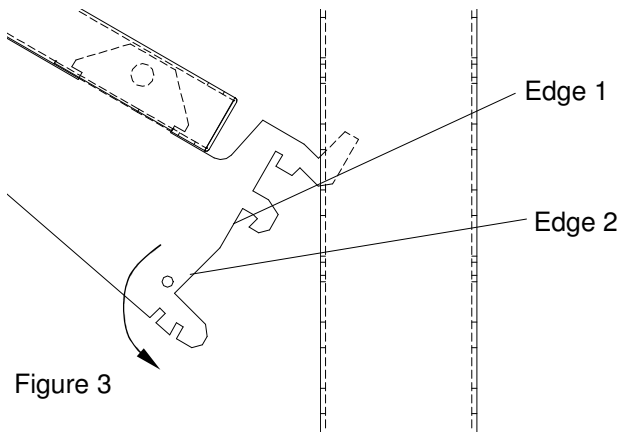

Figure 3
2. Insert top tabs of mounting brackets into inner slots on posts at height desired and rotate downwards until edge 1 touches the front of the post, as shown in Figure 3.